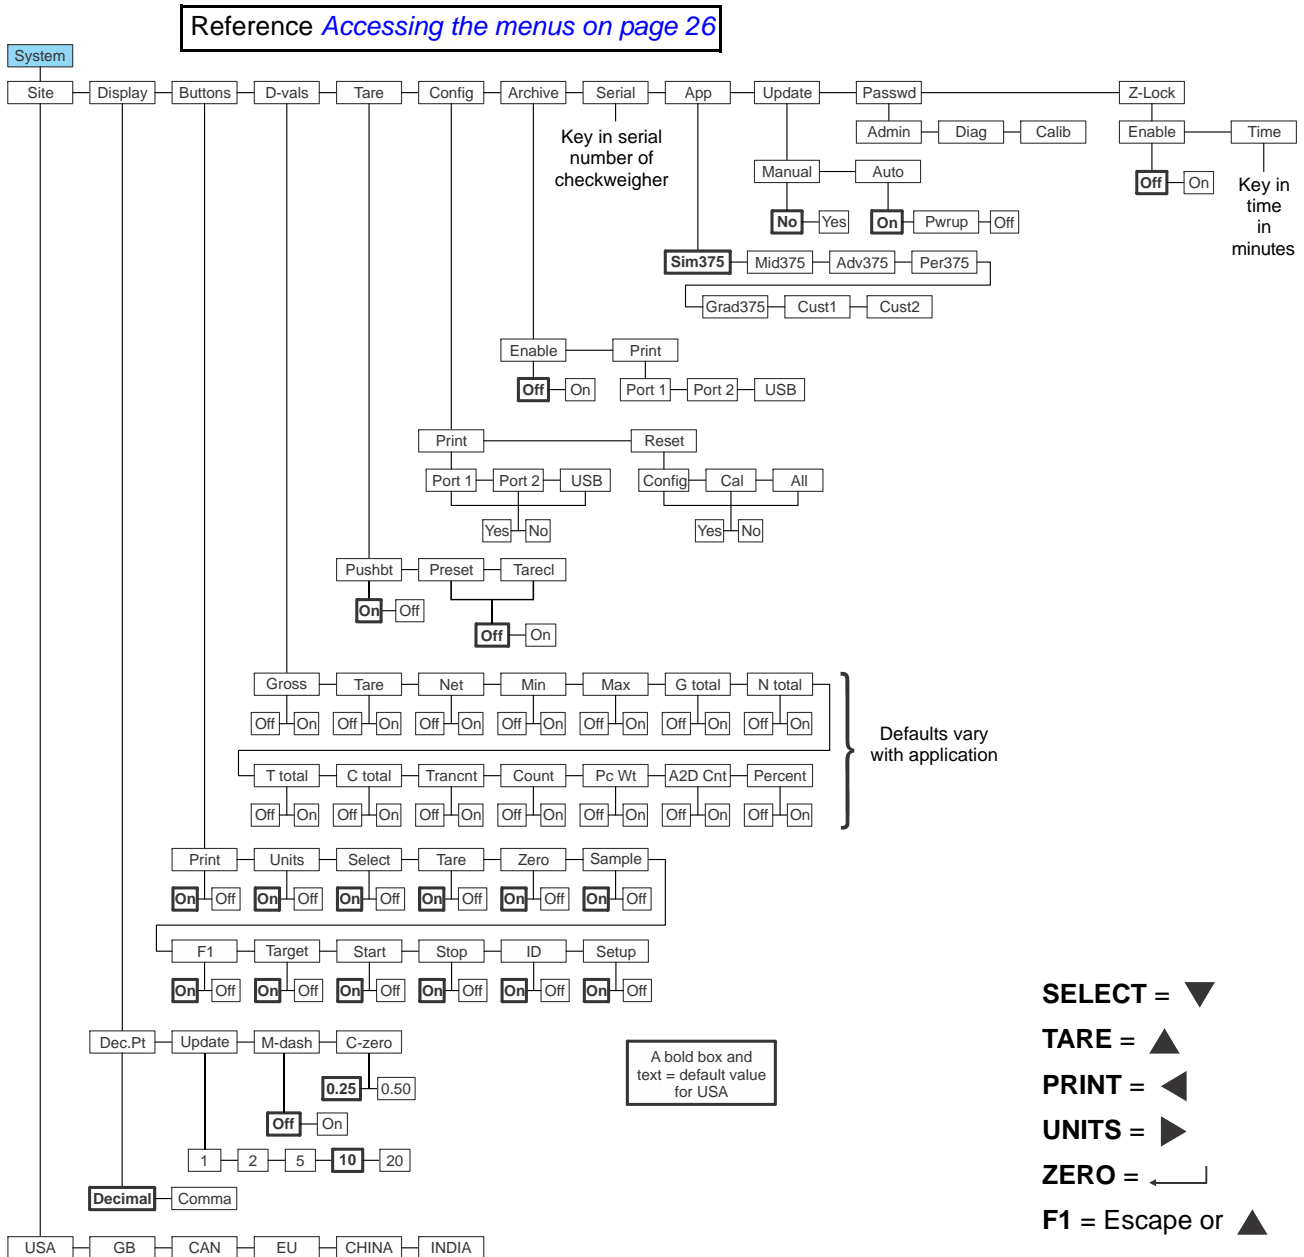

Figure 6.5 System menu
Use the System menu to configure system parameters such as loading defaults for the country of operation, setting available display modes and tare functions, selection of the scale application mode, and several other functions that will be described. Refer to Figure 6.5 as you setup the items of the System menu.
6. Repeat steps 3 through 5 for all the keys you want to change. Refer to the list of buttons in the menu found in Figure 6.5 on page 70. When finished press **TARE** ...